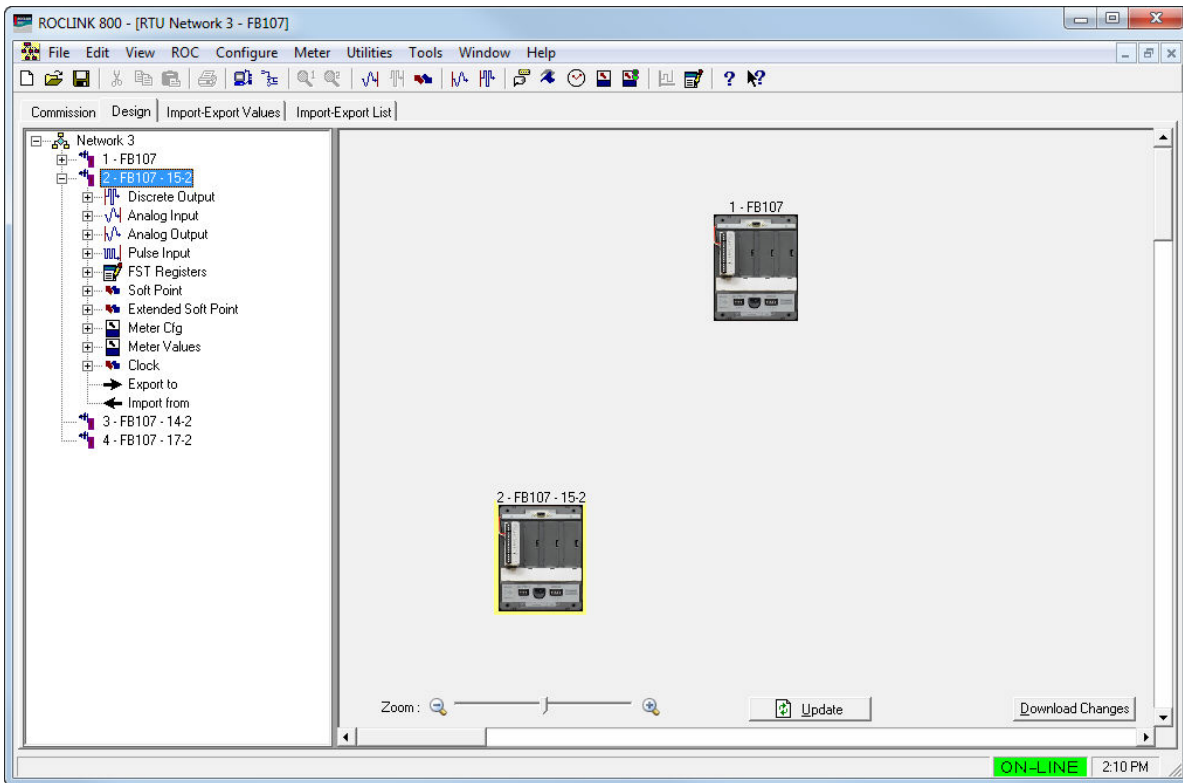

Figure 3-17. NAP and Node in Design Workspace
3. A network must have a NAP and at least one node. Left-click one of the nodes in the device tree and drag it onto the workspace (see *Figure 3-17*). Because the node is now the currently selected device, it has the yellow border. The program has also closed the device tree for the NAP and opened the device tree for the selected node.